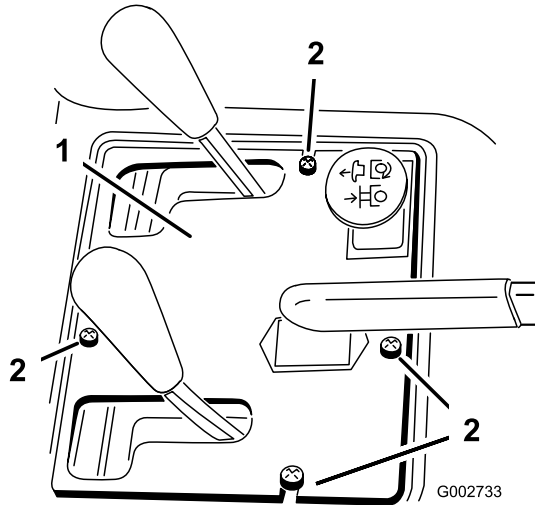

Figure 35
2. Remove the (4) screws securing the control panel to the frame (Figure 35).